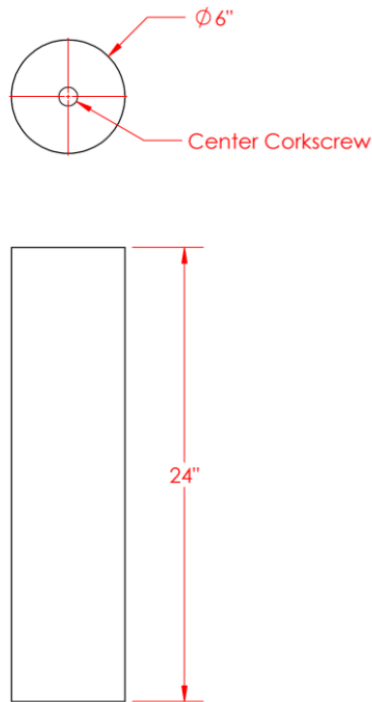

Figure 7: Round Hanging Baffle typical dimensions.
- 6) Custom sizes are available, but typical "stock" size of baffles is a 6" diameter and 24" in length. See Figure 7, below: